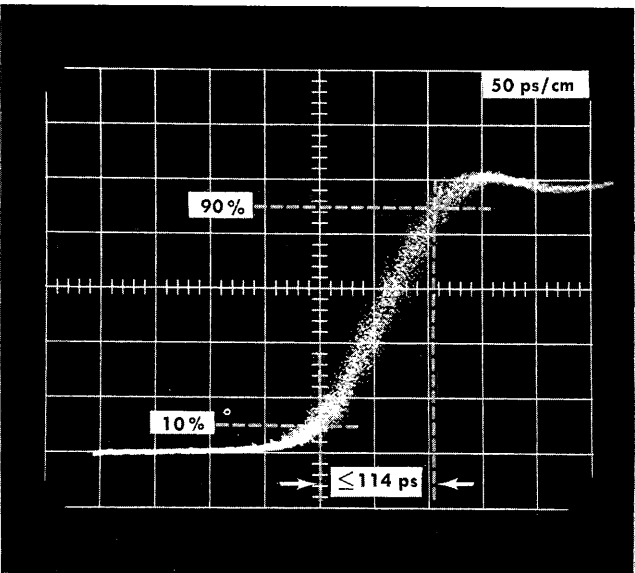

Fig. 6-32. Typical display showing rise time.
e. Adjust the Time Position control for a display similar to Fig. 6-32.
- Adjust the Time Position control for a display similar to Fig. 6-32.